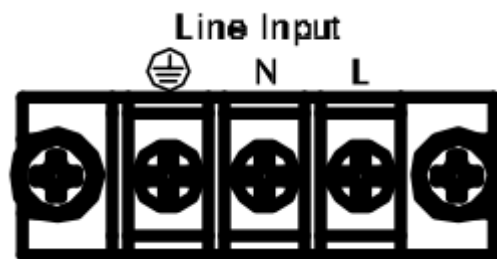

Fig 2-1 36000A Series AC Input Connection
- 2.2.2. Refer the drawing on the rear panel of 36000A Series high power load in Fig 2-1.